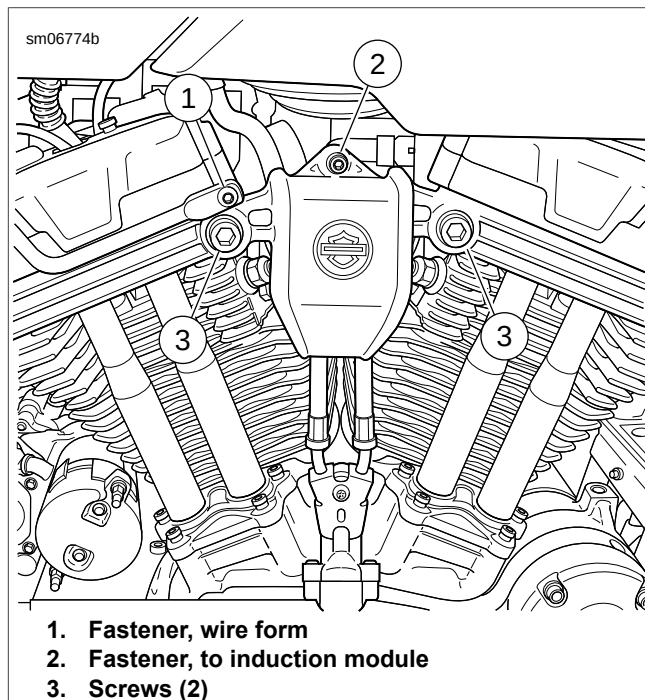

Figure 4-43. Induction Module Cover: XR 1200X
4. See Figure 4-43. Remove screws (3), fastener (1) and fastener (2).